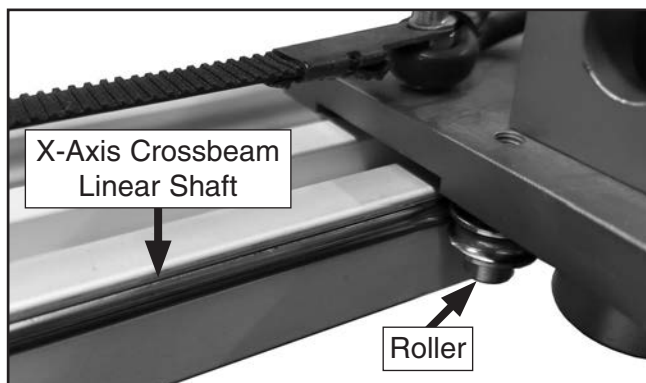

Figure 70. X-Axis crossbeam linear shaft and roller.
4. Using a clean, cotton cloth lightly covered with sewing machine oil, wipe crossbeam linear shaft until clean (see **Figure 70**).